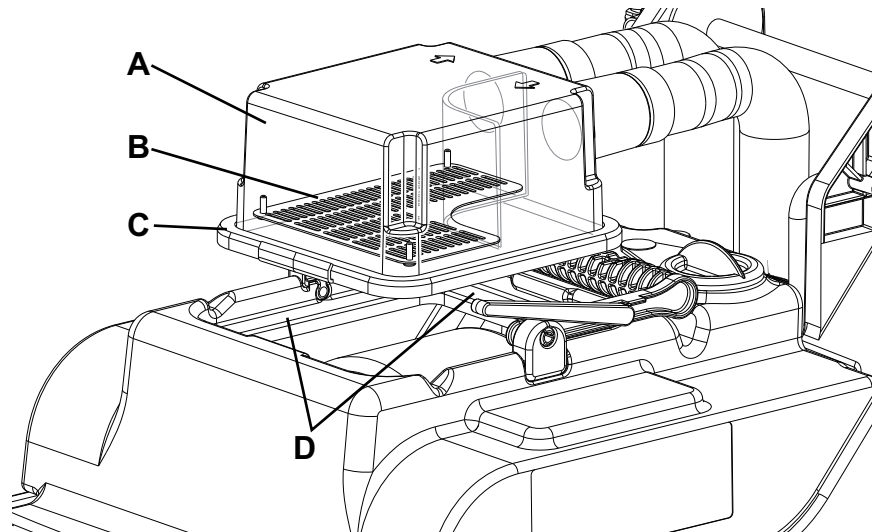

Figure 5
2. Make sure that the power supply cable (10) is disconnected from the electrical mains.
4. Open the transparent cover (A, Fig. 5) and clean it with care.